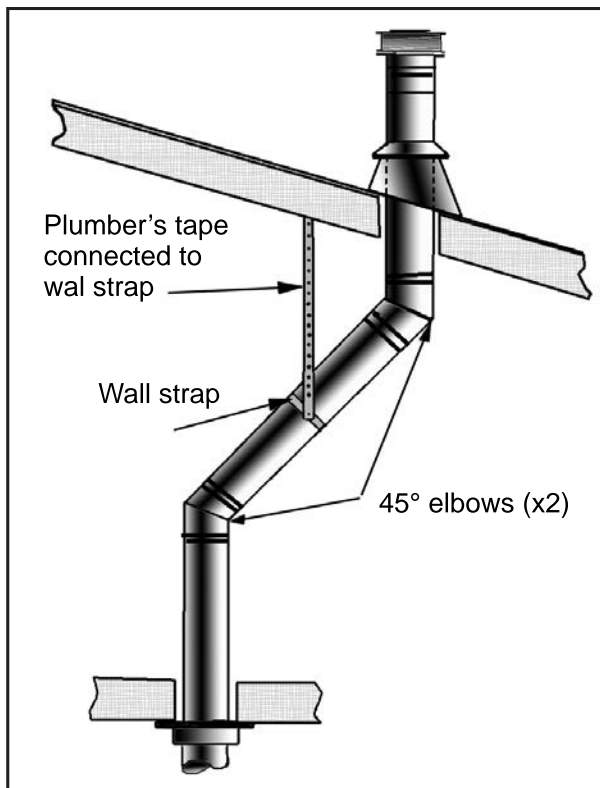
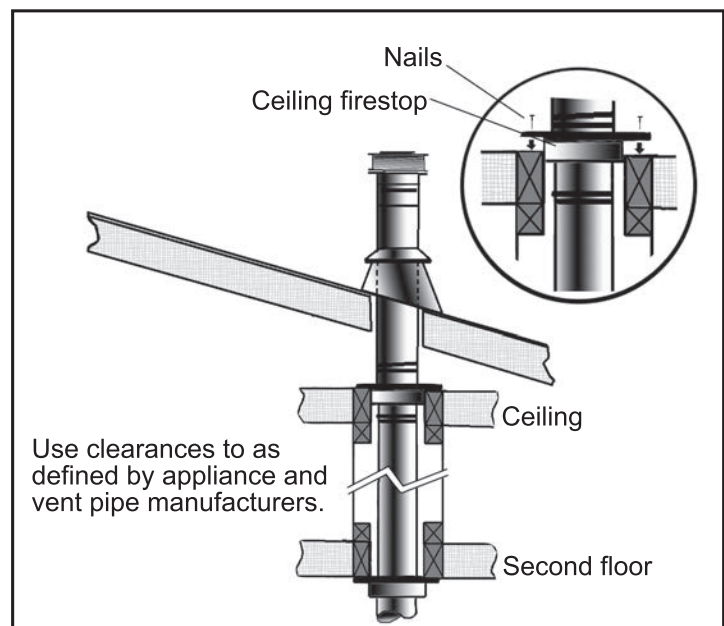

Figure 63: Use of Wall Straps.
Figure 64: Multi-Story Vent Pipe Installation
- (1) If an offset is necessary in the attic to avoid obstructions, it is important to support the vent pipe every **3' (914 mm)**, to avoid excessive stress on the elbows, and possible separation. Wall straps are available for this purpose (see Figure 63).
- (2) When ever possible, use 45° degree elbows instead of 90° degree elbows. The 45° degree elbow offers less restriction to the flow of flue gases and intake air.
- (3) For multi story installations; a ceiling firestop is required at the second floor, and any subsequent floors (see Figure 64). The opening should be framed to **10" (254 mm) x 10" (254 mm)** inside dimensions, in the same manner as shown in Figure 64.
- (4) Any occupied areas above the first floor, including closets and storage spaces, which the vertical vent passes through, must be enclosed. The enclosure may be framed and sheet-rocked with standard building materials. However consult the appliance manufactures installation instructions for the minimum allowable clearance between the outside of the vent pipe, and the combustible surfaces of the enclosure. Do not fill any required air spaces with insulation.